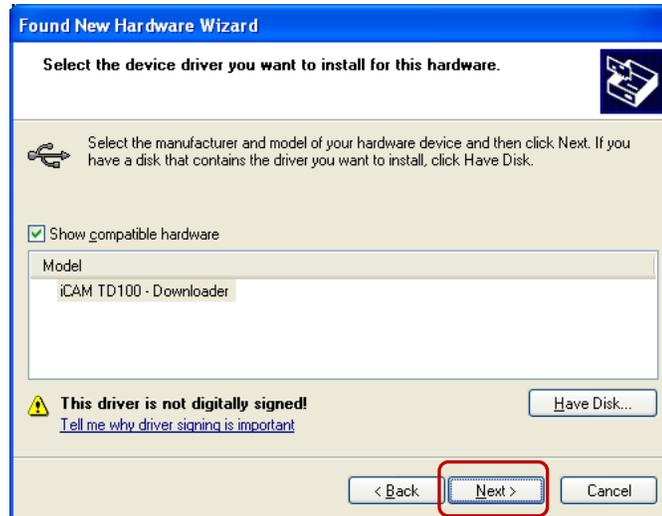

Fig. 15
9. Press > “Next” button as shown in Figure 15, to proceed to next screen.